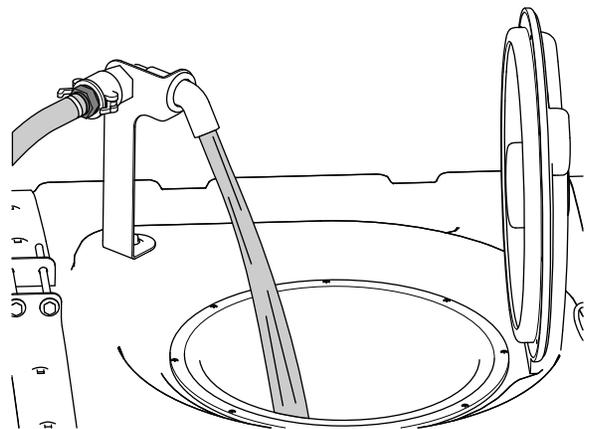

Figure 27
5. Add 3/4 of the required water to the spray tank (Figure 27).